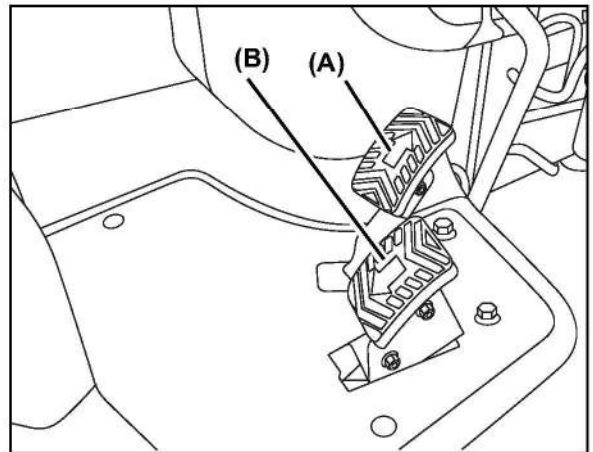

Fig 5-27
### (10) Reverse drive pedal (Fig 5-27)
### (11) Forward drive pedal (Fig 5-27)